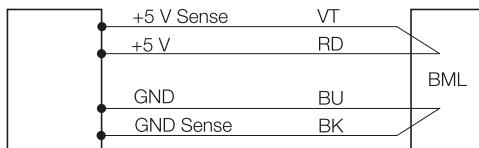
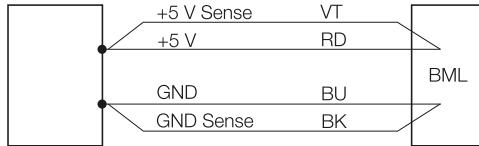

Fig. 4-3: Power supply with sense line
Fig. 4-4: 5-V power supply without sense line
- i** While operating at 5 V, the operating voltage must be $5\text{ V} \pm 5\%$. To avoid voltage drops in the supply, we recommend using a regulated power supply with sense input (Fig. 4-3). If this is not possible or desired, integrate the sense lines of the 12-wire cable parallel to +5 V and GND (Fig. 4-4).